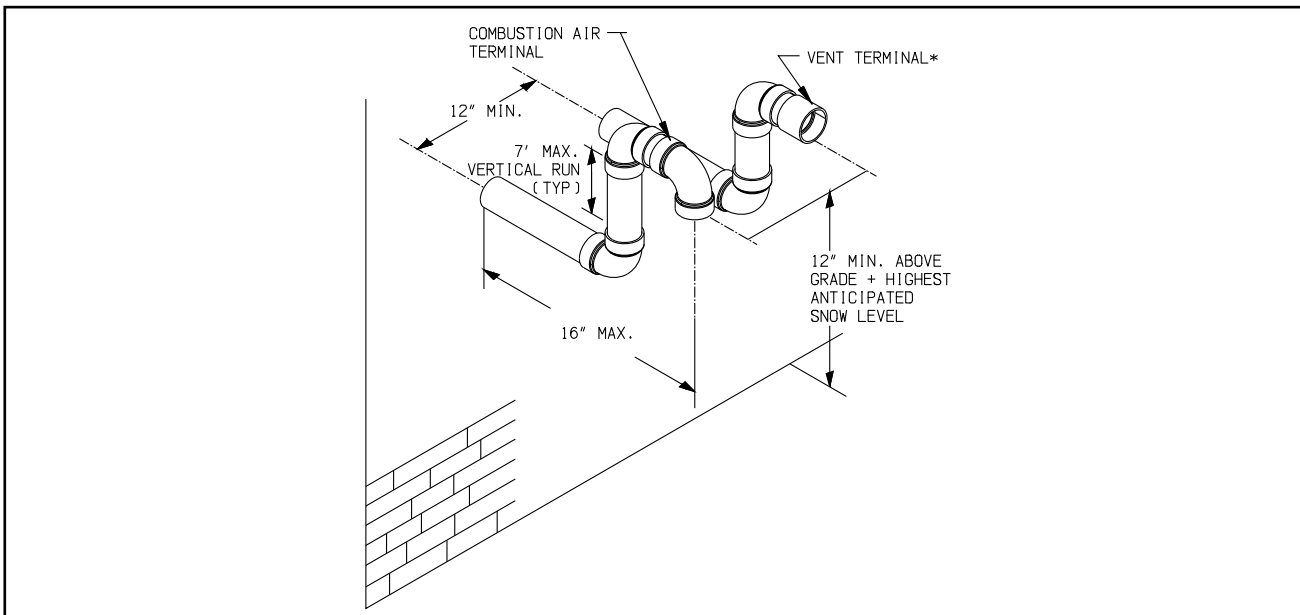

FIGURE 7.12: SNORKEL TERMINAL CONFIGURATION (CPVC/PVC VENT SYSTEMS ONLY)
If necessary to achieve required clearance above grade, CPVC or CPVC/PVC vent systems may be terminated using fittings on snorkels as shown in Figure 7.12. When this is done, the equivalent length of all pipe on the exterior of the building, except for the terminal fittings themselves, must be counted when calculating the equivalent length. The maximum vertical run of the snorkel is 7 feet. Brace both the vent and inlet piping if required. Polypro, InnoFlue and Polyflue may not be snorkeled.
- 3) PVC Terminal coupling and inlet elbow may be offset on snorkels as shown in Figure 7.12.